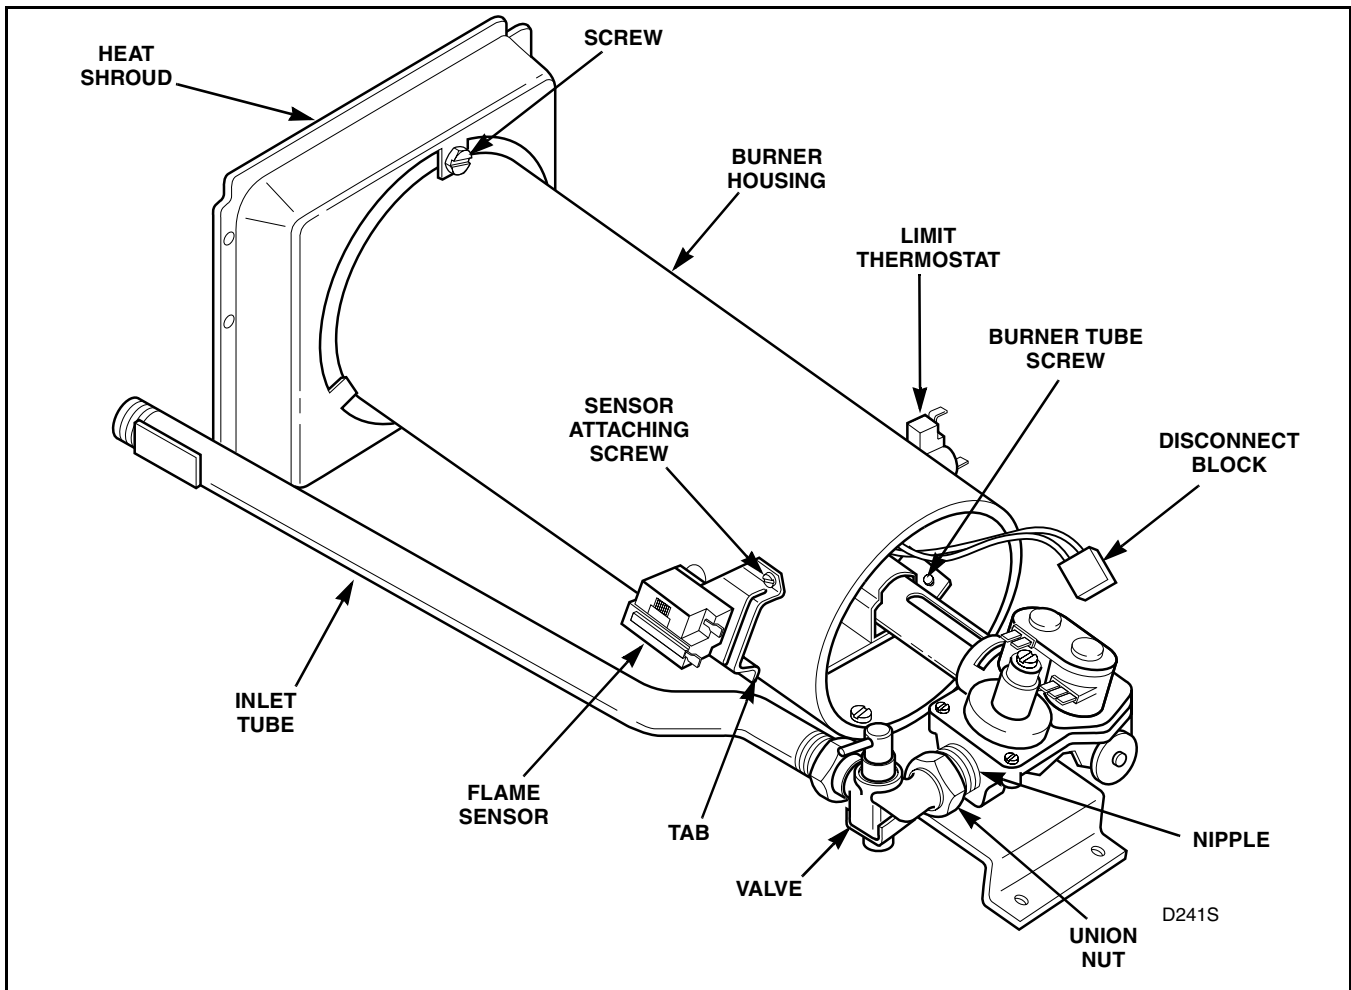

Figure 16
- (1) Remove front panel. Refer to *Paragraph 11*.
- (2) Close gas shutoff valve and disconnect wires from sensor and at quick disconnect blocks. Refer to *Figure 16*.
- (3) Loosen union nut between gas shutoff valve and nipple connector to gas valve. Unthread nut from nipple completely. Refer to *Figure 16*.
- (4) Remove screws holding valve and bracket to base. Refer to *Figure 16*.
- (5) Lift gas valve and mounting bracket from base and carefully remove through front of dryer.
- (1) Remove one screw from right side of burner housing holding burner tube in place. Refer to *Figure 16*.
- (2) Gently move burner tube toward rear of dryer to disengage tab from slot on left side of burner housing. Refer to *Figure 16*.
- (3) Carefully rotate burner tube and igniter counterclockwise so tab is at 8 o'clock position.
- (4) Move air shutter end of burner tube slightly to right and CAREFULLY remove burner tube and igniter assembly out through front of dryer.
d. **Sensor.** Refer to *Figure 16*